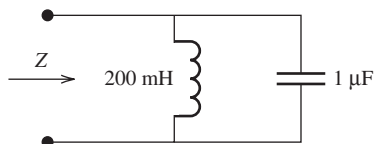

FIGURE P6.22 Circuit for Problem 6.22.
- 6.22** (B) Find Z in Figure P6.22 for $\omega = 200$, $\omega = 800$, and $\omega = 1500$.